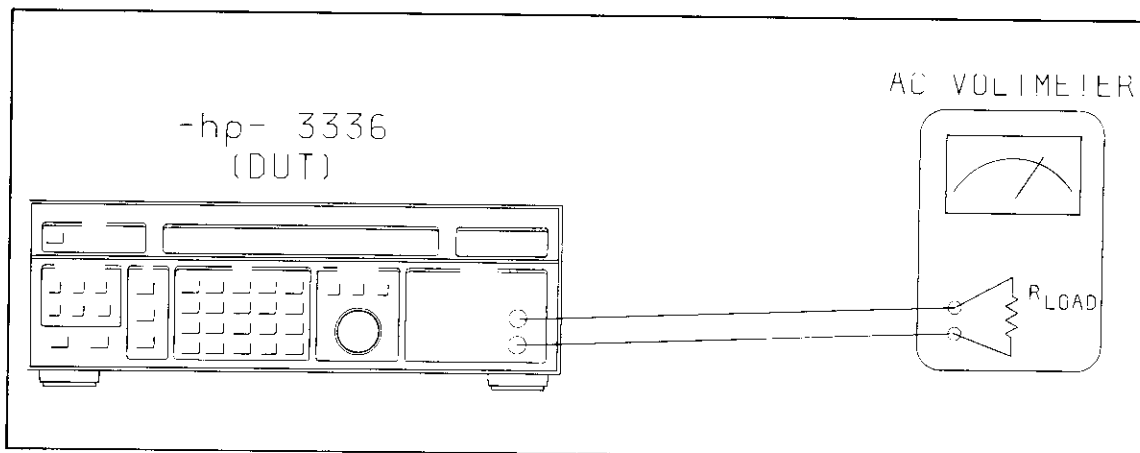

Figure 4-2. Absolute Amplitude Accuracy Equipment Set Up.
- a. Connect the equipment as shown in Figure 4-2. Use the proper termination at the voltmeter's input. For example, if you are testing the 600 ohm output, use a 600 ohm termination.